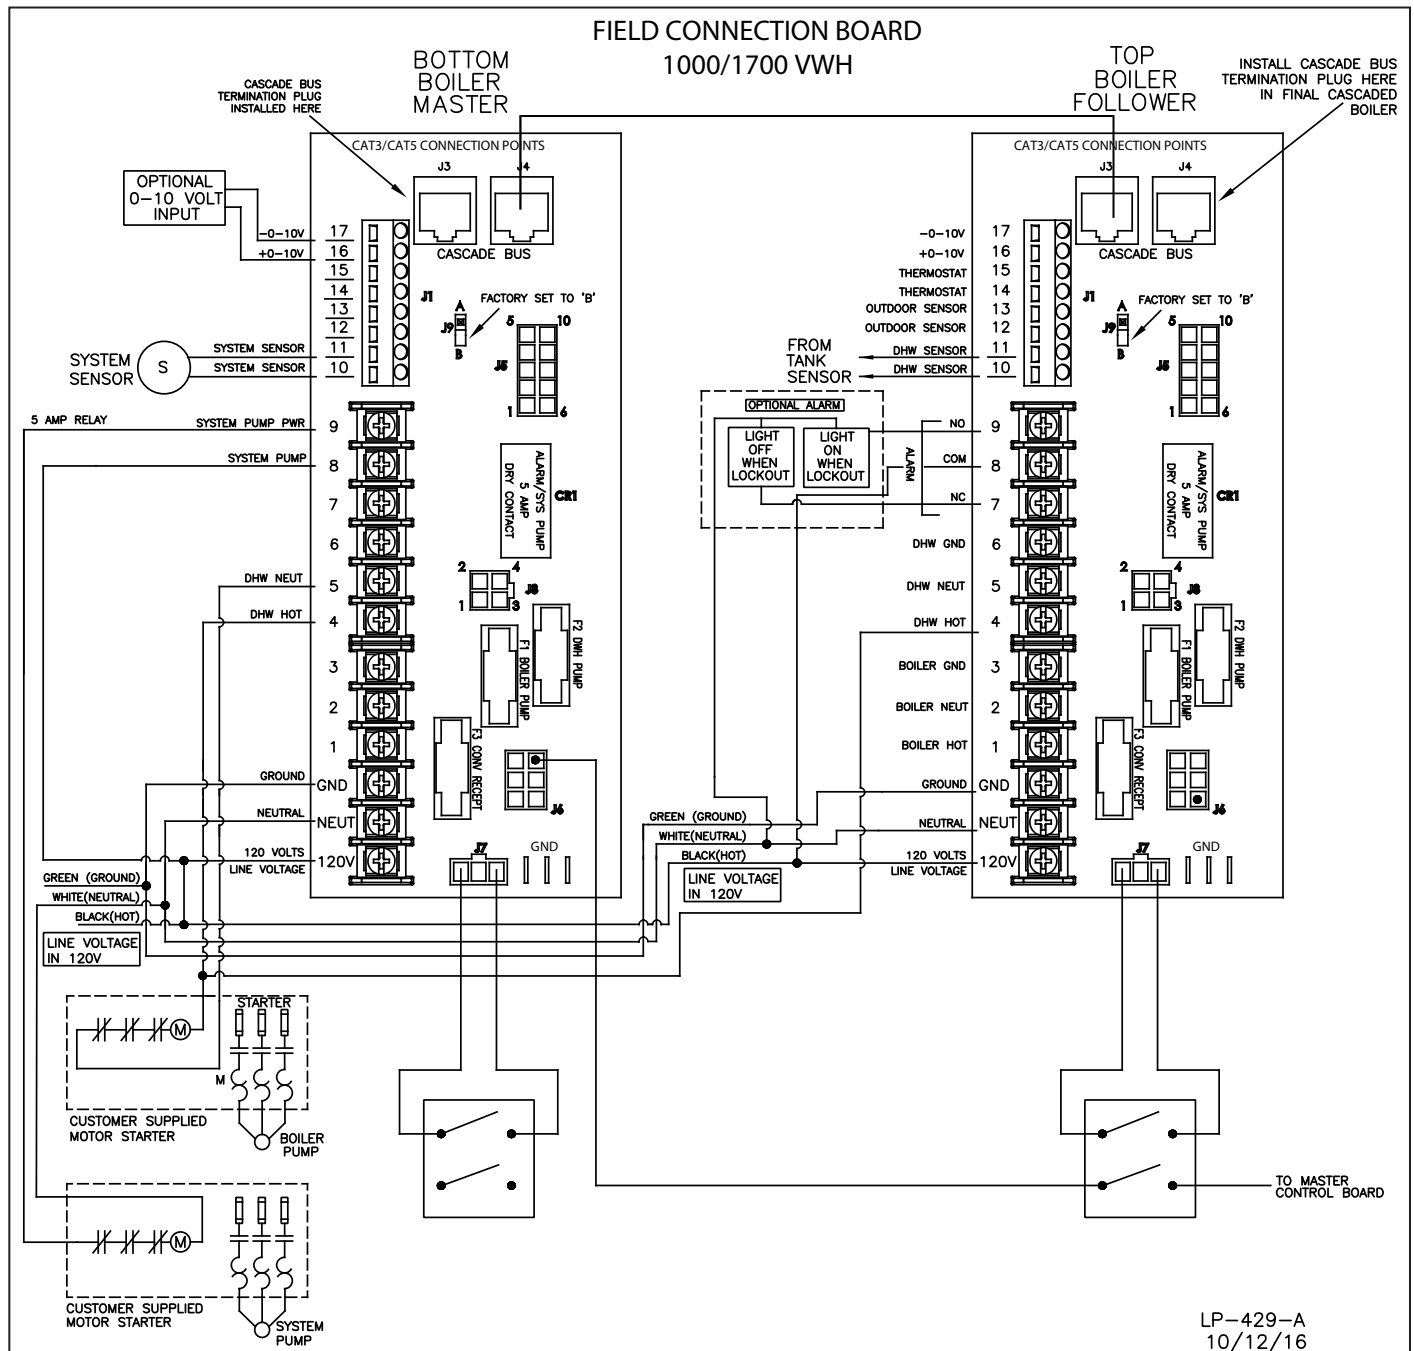

Figure 24 - VWH Cascade Master and Follower Wiring
The Mod Con VWH application requires a circulator pump for each boiler. Circulator pumps can be wired directly to the controller as shown in Figure 24 or wired directly to line voltage for continuous operation. Only wire the circulator pump to the controller if a tank sensor or mechanical control can be mounted to the storage tank, otherwise circulator pumps must be wired to run continuously. The circulator pump wired to the boiler control will have a default program of a 5 minute post purge to provide stabilization and post cleaning of the heat exchanger. The boiler control is capable of supplying 120 volts at up to 3 amps to run the circulator pump. If using a larger circulator pump requiring more than 3 amps or higher voltage, an external motor starter, sized appropriately for the pump motor, must be used. This starter should have a 120 VAC coil. If a starter with a 120 VAC coil is used, it can be wired directly to the appropriate pump terminals as shown in Figure 24.
1. Connect the incoming power wiring to the line voltage terminal strip in the electrical junction box at terminals 120V, Neutral, Ground (shown in Figure 24).
3. If the pump used for the boiler operates at 120 volts and less than 3 amps is required, it may be connected directly to the terminals marked BOILER HOT, BOILER NEUT, and BOILER GRD. If the pump operates at a voltage other than 120 volts and/or requires more than 3 amps, an external motor starter must be used to operate the pump. If the starter is equipped with a 120 volt coil, the coil connections may be connected directly to the terminals marked BOILER HOT and BOILER NEUT. Refer to Figure 24 for a representative drawing of this configuration. If a motor starter is used, it should be selected, installed, and wired in compliance with all local electrical codes and requirements. In the absence of such codes or requirements, the National Electrical Code (NFPA 70) should be followed.
The control includes a dry contact alarm output. This is an SPDT circuit, rated at 5 amps at 120 volts. This contact can be used to activate an alarm light or bell or notify a building management system if the boiler goes into a lockout condition. The circuit between the ALARM COM and NC terminals is closed during normal operation and the circuit between ALARM COM and NO is open during normal operation. The connections depicted in Figure 24 show two 120 volt lights connected to the alarm terminals. One light will be on when the boiler is in normal mode and the other light will be on when the boiler is in lockout mode.
1. All low voltage cables should enter the electrical junction box through the provided knock out holes as shown in Figure 24.
Connect the tank sensor or mechanical controls to the TANK SENSOR terminals (10, 11) of the low voltage terminal strip as shown in Figure 24. The control will automatically determine which type of sensor is connected and operate accordingly.
The pipe sensor can be used to control the temperature of the storage tank when a tank sensor or mechanical control cannot be mounted. The pipe sensor should be wired into the terminals of the low voltage terminal strip of the top boiler as shown in Figure 24. It is important to note that when a pipe sensor is used, the circulating pump must be wired to operate continuously; otherwise the boiler will short cycle and the storage tank will not heat.
A system/pipe sensor can be used when multiple units are cascaded. This sensor will control the temperature and firing rate of the connected units. The system/pipe sensor should then be wired into the master boiler terminals on the low voltage strip as shown in Figure 24 in place of the factory installed system sensor.
2. Connect a building management system or other auxiliary control signal to the terminals marked 16, 0-10 VOLT + and 17, 0-10 VOLT – in the electrical junction box (shown in Figure 24). Caution should be used to ensure that the 0-10 VOLT + connection does not become connected to ground.
NOTE: A termination plug is included in the CAT 3 / CAT 5 Bus Connection Point labeled J3 in Figure 24. DO NOT REMOVE THIS PLUG UNLESS INSTRUCTED TO DO SO. Doing so will affect boiler operation and void warranty.
3. If it is desired to monitor the boiler system to detect a lockout condition, a dry contact alarm relay is provided. Please see Figure 24 for wiring suggestions for this relay. Note that the alarm output of the boiler addressed as 1 will be active for lockout alarms on boiler 1 as well as the master boiler.